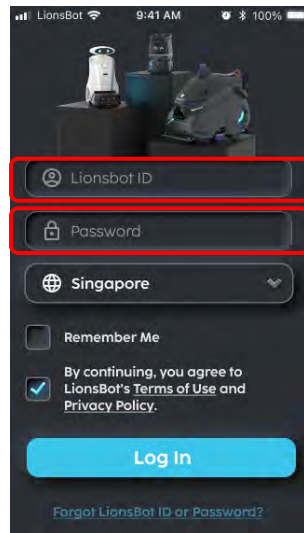

Fig. 1
1. On the login page, enter the provided ID and password (Fig. 1).